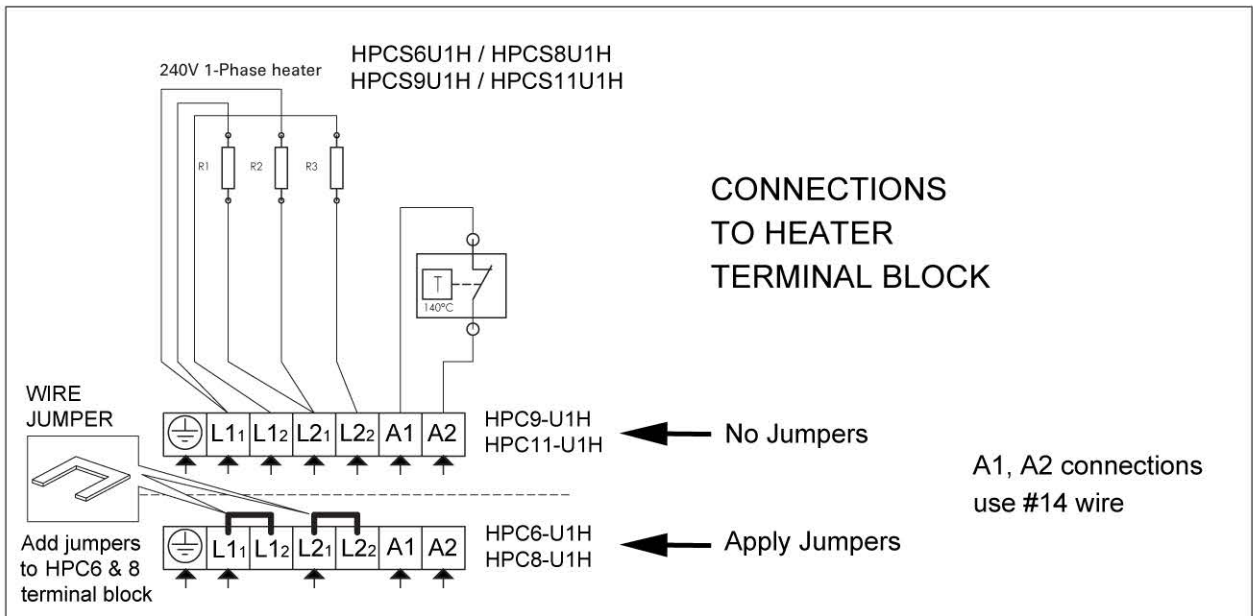

Figure 7. Electrical connections of the heater
2. See applicable wiring diagram for heater model (figure 7, see control unit manual for detailed instructions how to connect the heater and the control unit). Heater must be permanently installed by using seal tight conduit between the heater and the wall of the sauna room (pigtaills or plugs are not allowed in the sauna room). Wiring must be done by a licensed electrician, who must follow wiring diagram provided and adhere to local codes. Use proper AWG rated wire size and use copper wire suitable for 194 °F (90 °C) within sauna walls. Use grounding terminals provided in sauna heater and control unit to properly ground the equipment as per NEC and local codes.